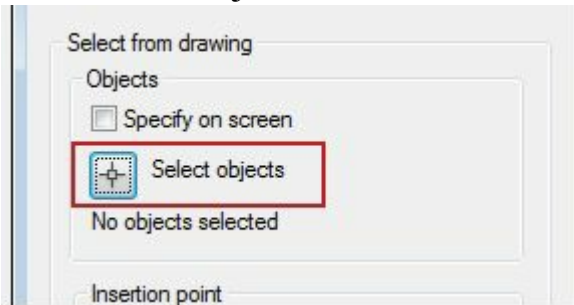

Figure-41. Select Objects button
- Click on the **Select objects** button from the dialog box; refer to Figure-41. You will be asked to select the objects.